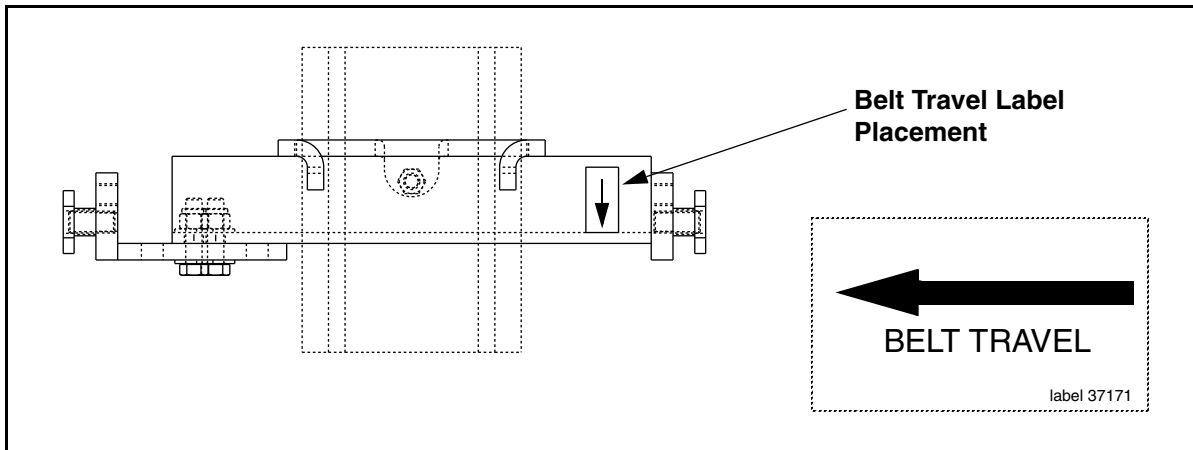

Figure 4. Placement of Belt Travel Label, P/N 37171
6. Kit must be installed with belt travel direction as shown. Failure to install correctly could result in bar clamp failure. Refer to Figure 4.
7. Kit includes enough parts to convert both wing rollers on (1) troughing or impact idler.